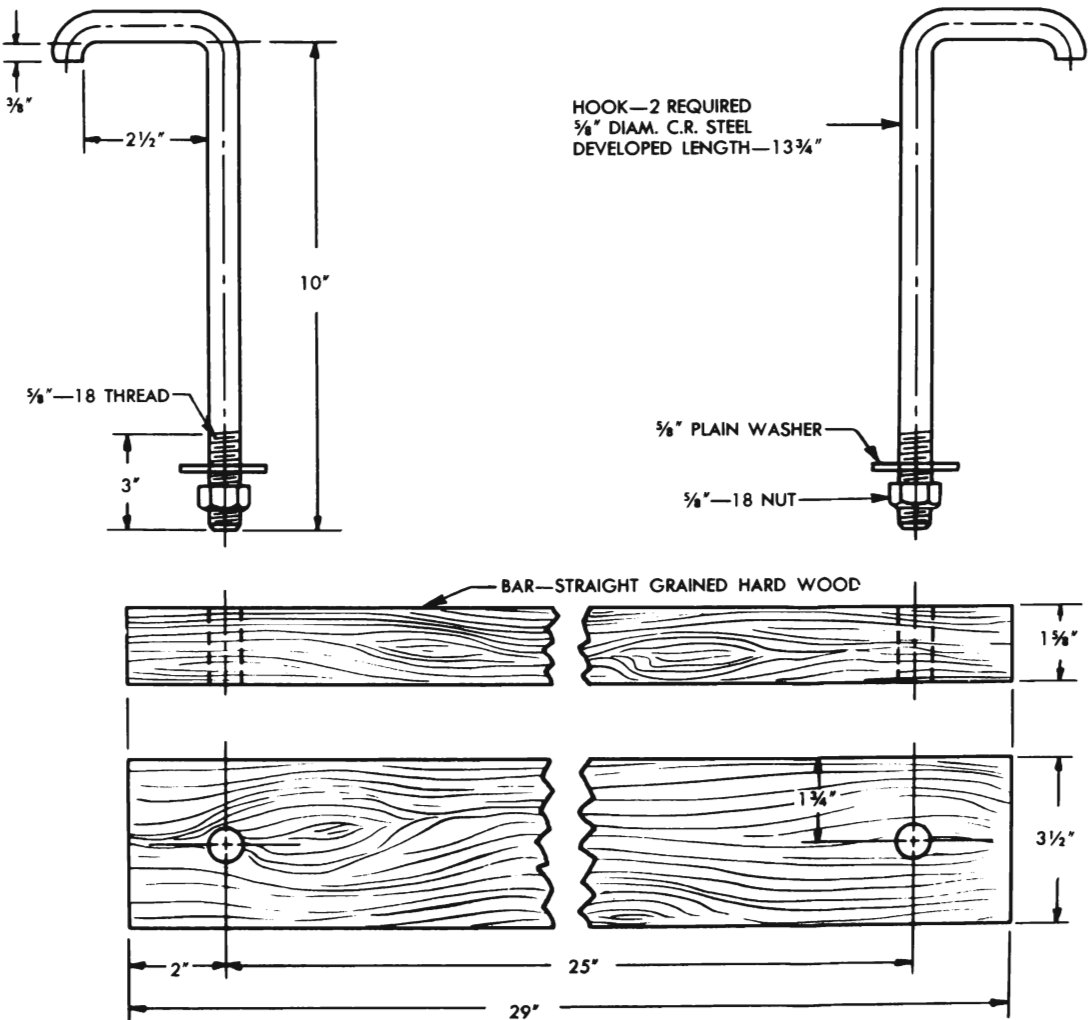
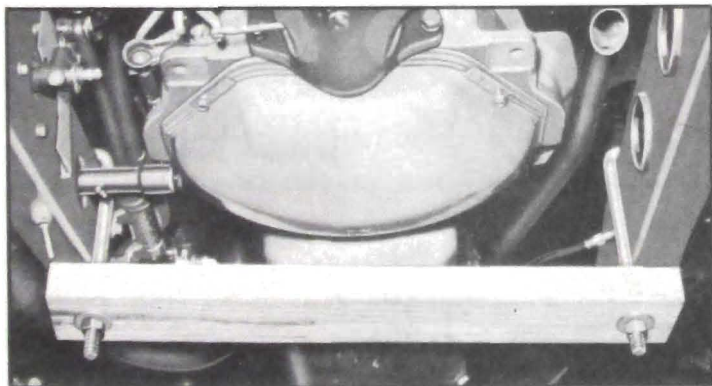

Figure 4-35—Engine Support Bar and Hooks
Figure 4-43—Supporting Rear End of Engine
The rear end of engine must be firmly supported before removal of transmission. The use of a jack or blocks is dangerous because of possibility of slipping and letting engine fall. The support bar and hooks illustrated in figure 4-43 are made to the dimensions given in figure 4-35.
4. Support rear end of engine by installing support bar (fig. 4-35) under rear end of lower crankcase. Place left side hook over frame between brake master cylinder and clutch release equalizer. Tighten nuts on both hooks evenly. See figure 4-43.